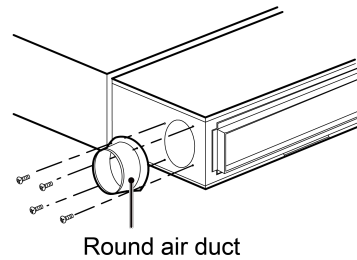

Fig 4.26
- (2) Install circular flange so that fresh air duct can be easily connected, as shown in Fig 4.26.
- (3) Both air duct and circular flange need to be well-sealed and insulated.
- (4) Fresh air should be the air that has been filtered.